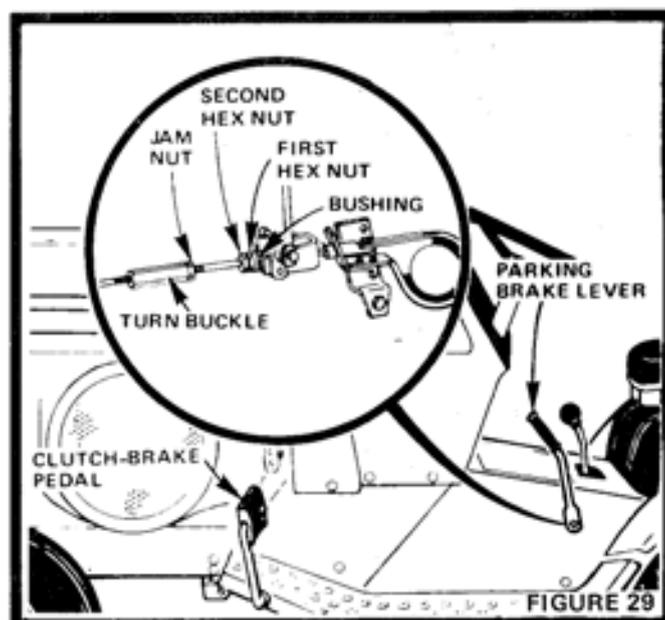

FIGURE 29
If Clutch-Brake Pedal (Fig. 29) has more than approximately 4 inches of travel from vertical to full brake position then brake adjustment is necessary.
- Loosen Jam Nut (Fig. 29), in order to turn turnbuckle clockwise (from in front of tractor) one turn at a time until Clutch-Brake Pedal regains 4 inches of travel.
- Loosen Parking Brake Hex Nuts (Fig. 29).